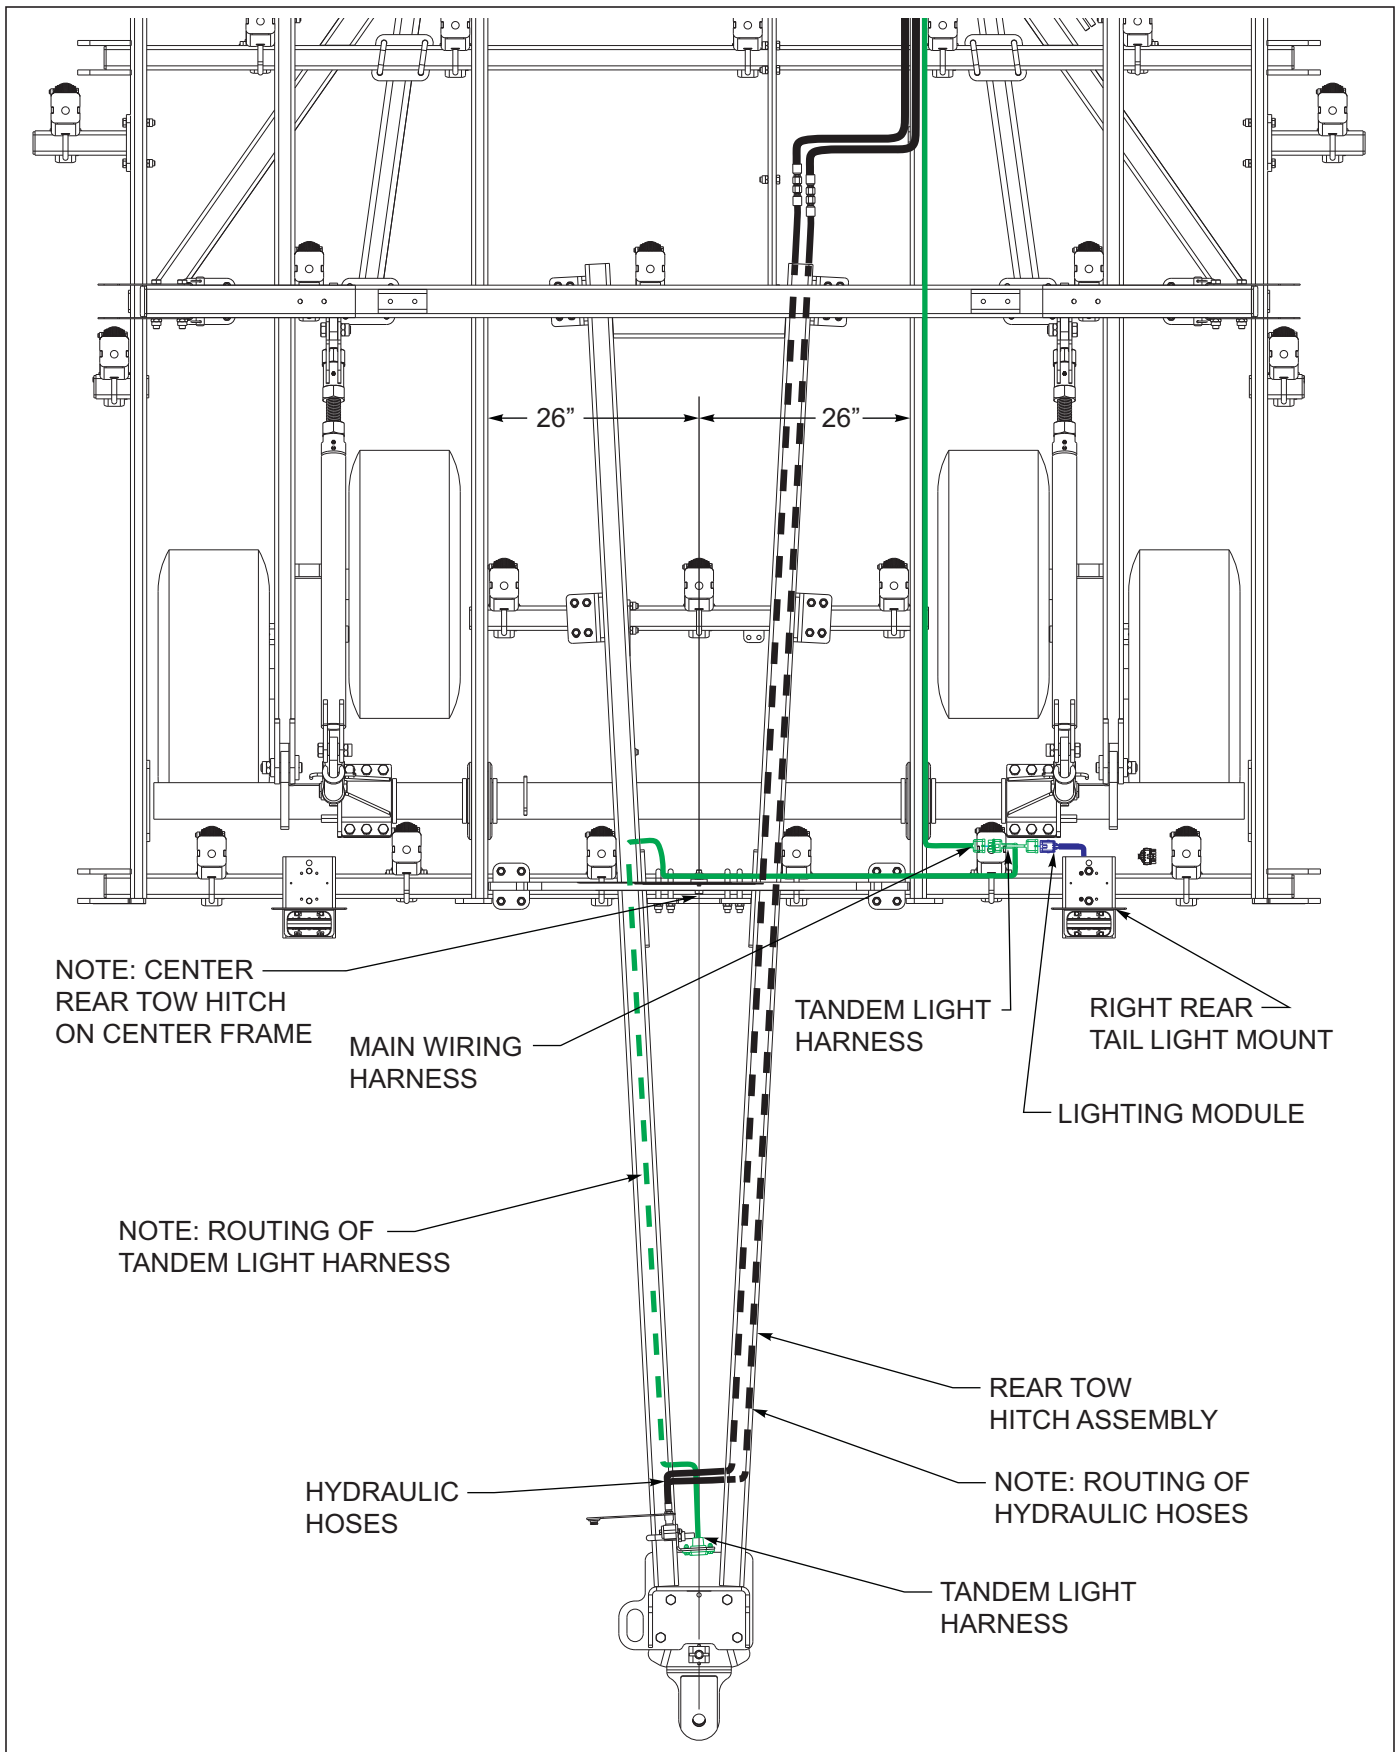

Figure 3-35: Rear Tow Hitch Layout
8. Center the rear tow hitch assembly on center frame *See Figures 3-35*, tighten all u-bolts to secure hitch.
10. Route the tandem light harness connector across the rear frame bar to the right rear tail light. Unplug the existing four-pin main wiring harness from the lighting module. Connect the rear tow hitch harness between the lighting module and the main wiring harness *See Figures 3-34* and *See Figures 3-35* for proper hose and light harness routing.